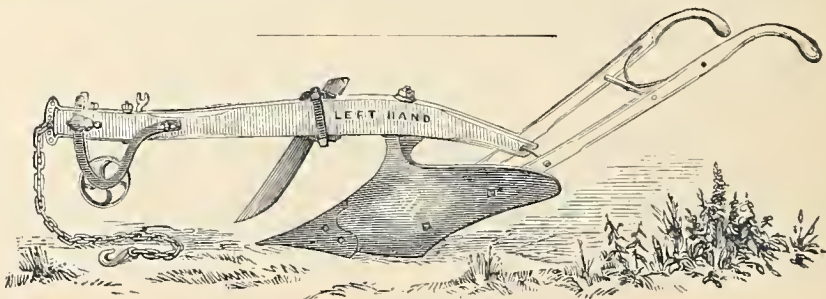

Fig. 283. — Eagle Left-Hand Plows, Nos. 46 and 47.
*Eagle Plows, Nos. 46 and 47, Left Hand*, represented by *Fig. 283*, are strong, powerful plows for two or more horses or cattle, according to amount of work to be performed. They are trimmed usually with wheel and cutter.